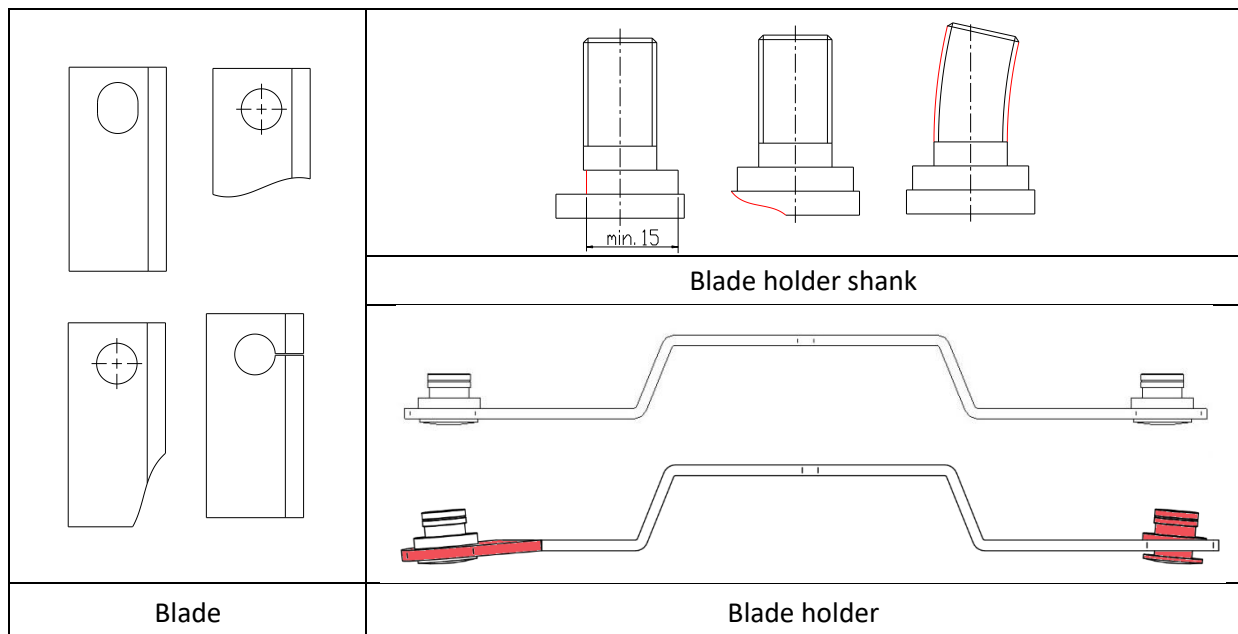
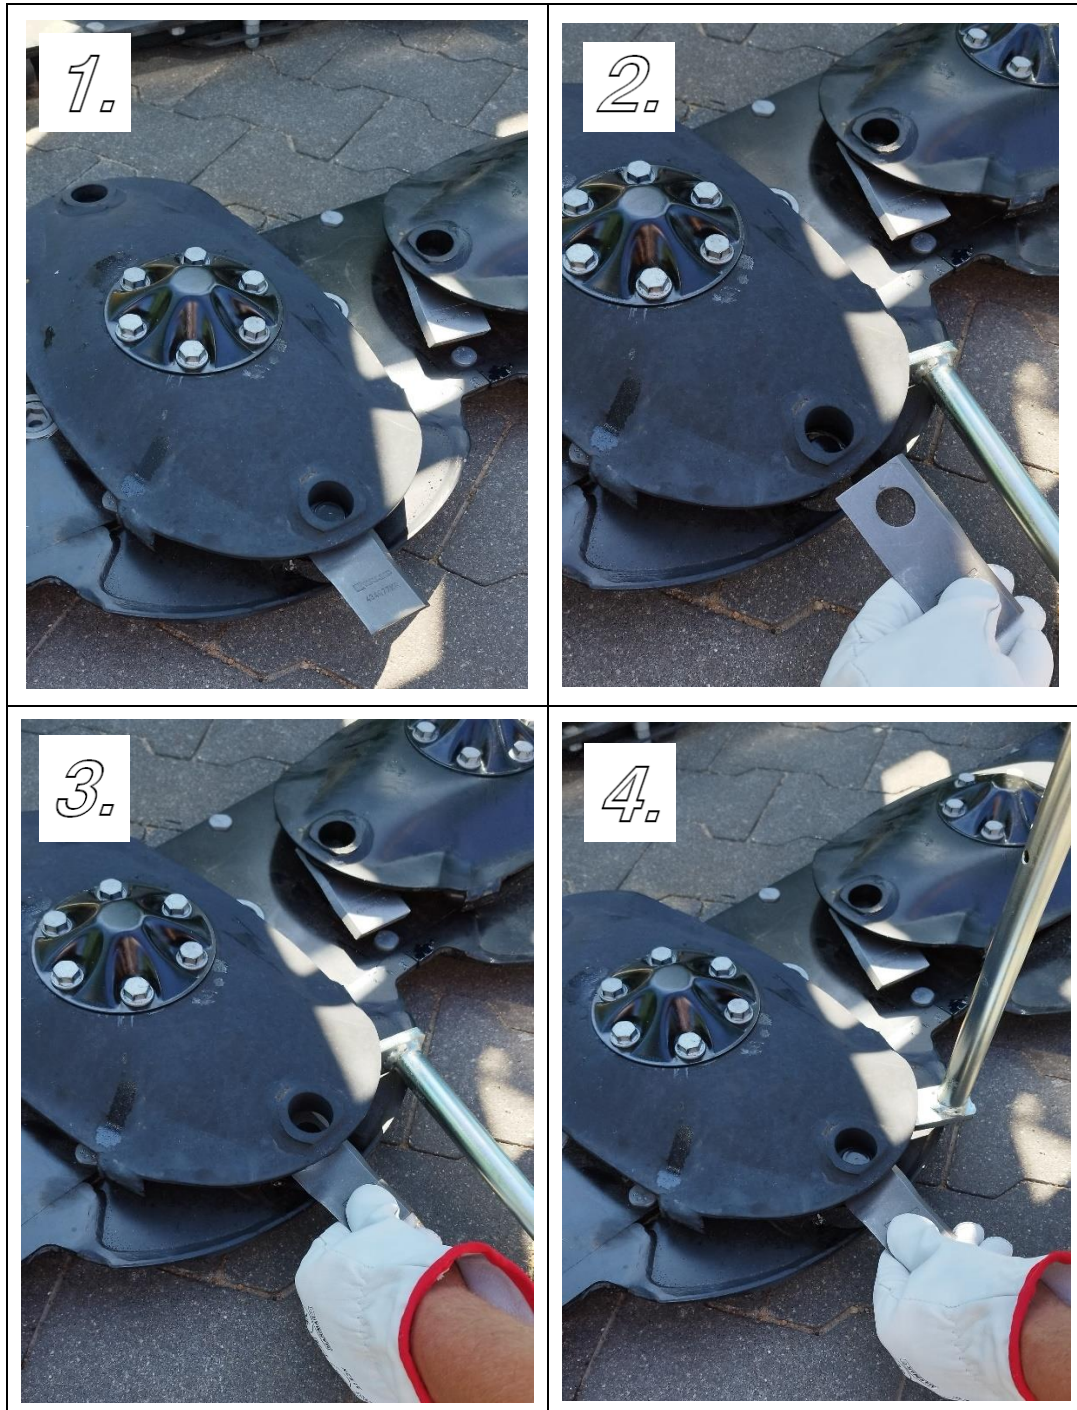

Fig. 18 Common damages
Fig. 19 Inspection, replacement and turning of blade
Replacement or turning of blade is performed by using a special wrench in accordance with the Fig. 19. Wrench is placed (picture 16 (1)) between the upper plate of the disc and the blade holder, the blade holder is tilted until it becomes loose making it possible to remove the blade 16(2). After inspecting the blade 16 (3), the blade tang and the blade holder (in accordance with the Fig. 18), the installation of the blade 16 (4) may be performed by turning the blade or replacing it.
3. Inspect the condition of the cooperating components: blade holder, blade tang, and blade. Replace with new ones if damages are observed. Fig. 18
The level of oil in the cutting bar should be checked after placing the mower on an even surface by opening the oil filler plug (A), Fig. 18. The oil level should be within the range of 5 ÷ 7 mm.
Gearbox oil level should be checked with the oil dipstick placed in the oil control-filler-drain plug (A), after opening it Fig. 18. The (B) position is the cutter bar vent.
- Open the oil filler, drain and control plug (A) Fig. 18.
- Check the level and close the plug (A)
- Open the oil filler, control plug (A) Fig. 18
- Open the oil drain plug (B)
- Close the oil drain plug (B)